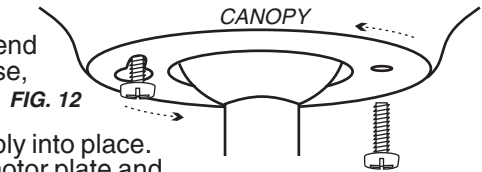

FIG. 12
V. With the motor in place and the wires out of the way, slide the canopy up to the hanging bracket. The canopy screw in the bracket will come through the large end of the key slot in the canopy. Fig. 12. Turn the canopy slightly, counter-clockwise, to hold in place, and insert remaining canopy screw. Tighten the screws.